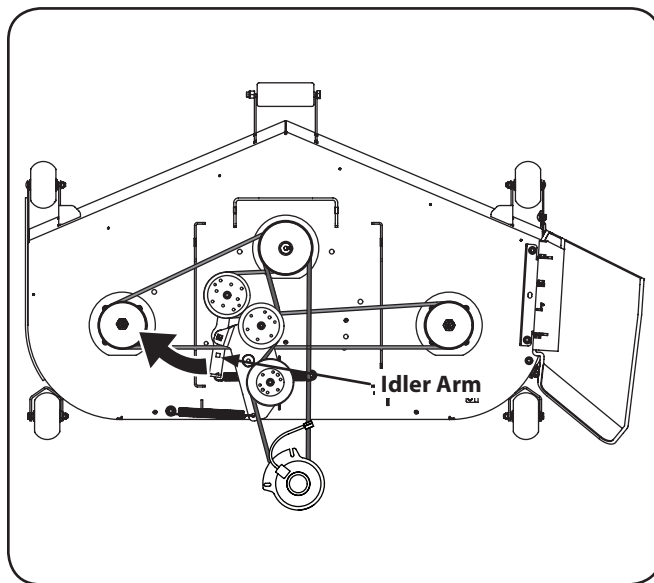

Figure 7-11
- Using a $\frac{1}{2}$ " socket breaker bar or socket ratchet insert the male end into the $\frac{1}{2}$ " square opening in the lower idler arm assembly/Idler pulley bracket and pull the idler arm/pulley bracket clockwise. See Fig. 7-11. While holding the idler arm back, loosen the deck belt from the pulleys and slide the belt away from the pulley.